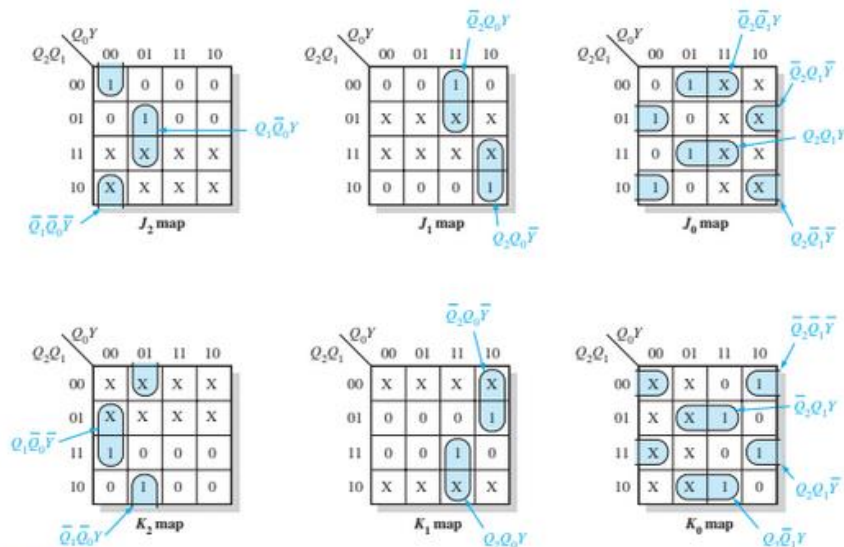

FIGURE 9-34 J and K maps for Table 9-12. The UP/DOWN control input, Y , is treated as a fourth variable.
Step 4: The Karnaugh maps for the J and K inputs of the flip-flops are shown in Figure 9-34. The UP/DOWN control input, Y , is considered one of the state variables along with Q_0 , Q_1 , and Q_2 . Using the next-state table, the information in the “Flip-Flop Inputs” column of Table 9-13 is transferred onto the maps as indicated for each present state of the counter.